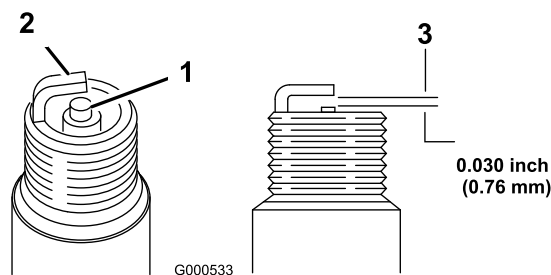

Figure 31
5. Set the gap on the plug to 0.030 inch (0.76 mm) (Figure 31).